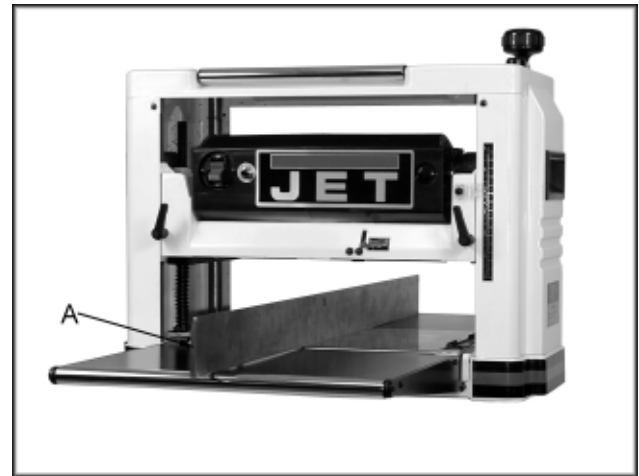

Fig. 3
3. Place a straight edge (A, Fig. 3) across both extension table rollers.